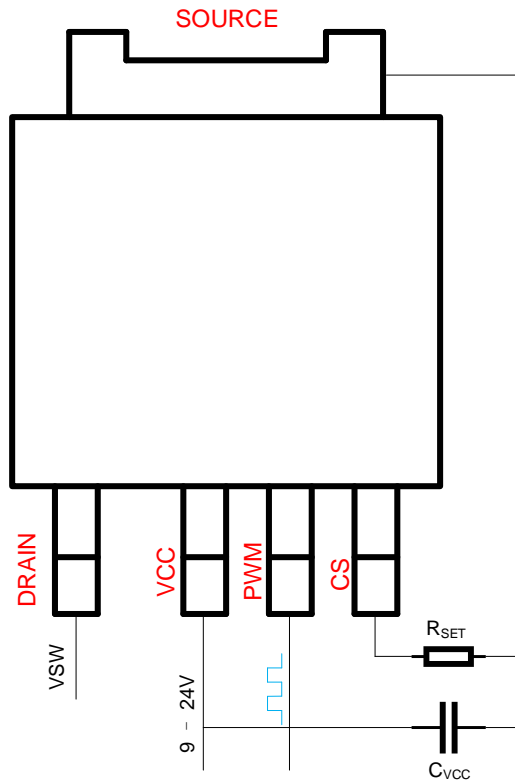

Figure 19. IC connection diagram
The typical connection diagram for this GaN Power IC is shown in Fig 19. The IC pins include drain of the GaN power FET (D), source of the GaN power FET (S), IC supply ( $V_{CC}$ ), PWM input (PWM), and current sensing output (CS). The external components around the IC include  $V_{CC}$  filter capacitor ( $C_{VCC}$ ) connected between  $V_{CC}$  pin and S pin, a current sense amplitude set resistor ( $R_{SET}$ ) connected between CS pin and S.